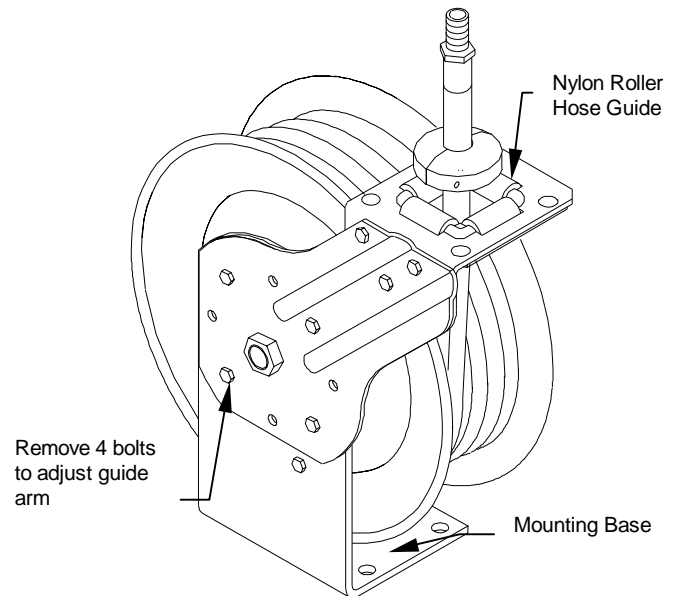
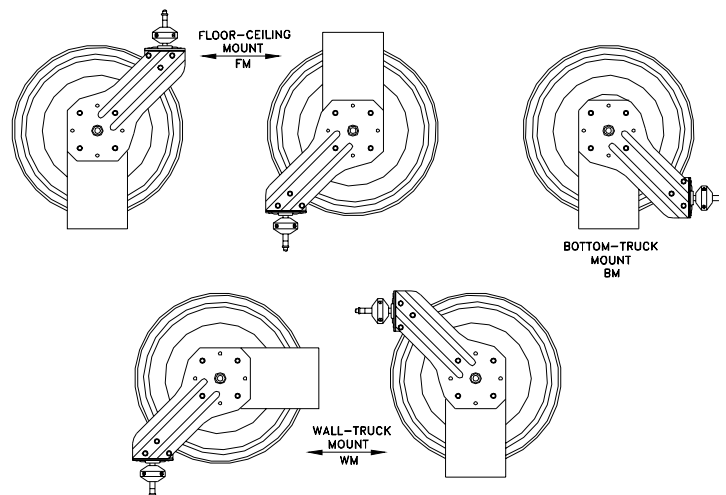

Fig. 1
Fig. 2
2. Reel is supplied with guide arm in floor/ceiling mount position as shown in Fig. 1. If required, see "Typical Mounting Positions", Fig. 2, and adjust guide arm accordingly:
- b) Remove the four bolts holding guide arm to support post, Fig. 1